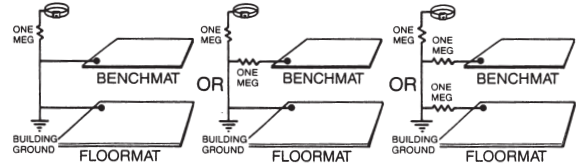

Figure 15. Proper wiring diagrams for conductive and dissipative ESD workstations.
8. Your completed installation of a Desco ESD workstation should comply with one of the electrical diagrams illustrated in Figure 15.